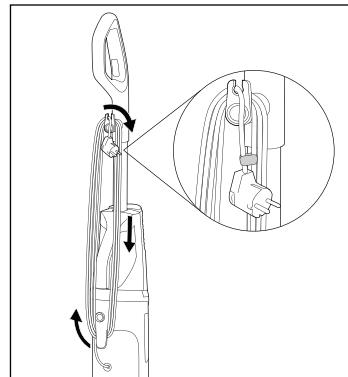

Fig. 44
- ♦ Wind the power cable **⑰** completely around both the upper and lower cable retainers **⑯/⑳** (see fig. 44).